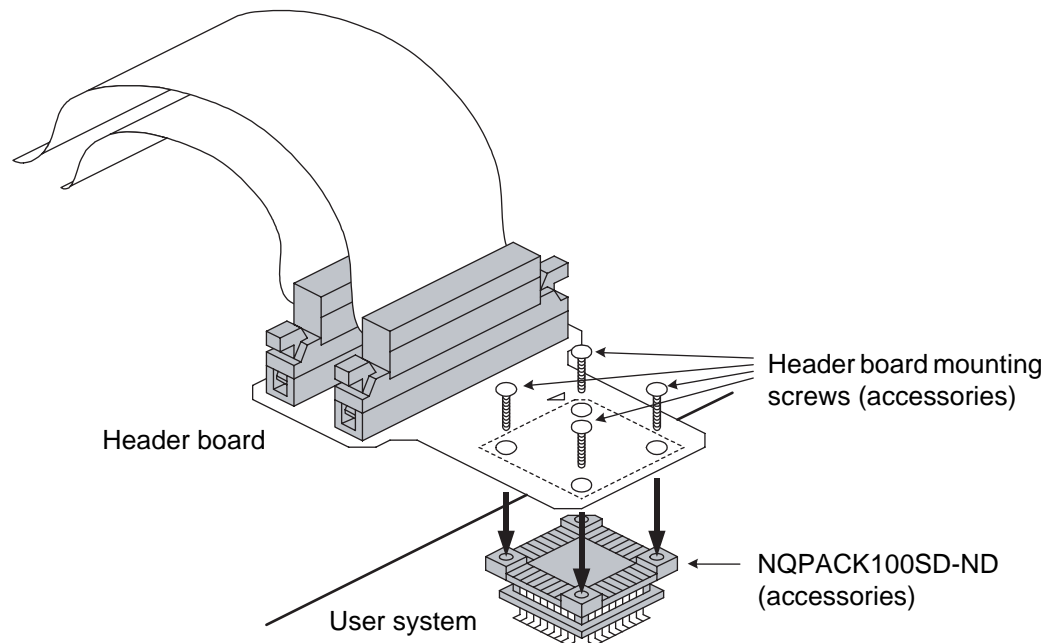

Figure 3 Header board connection to the user system
1. To connect the header board to the user system, match the index mark (only one corner is cut lineally) on the NQPACK100SD-ND mounted on the user system with the index mark (▼) on the header board, and then insert it (see Figure 3).
2. Insert each header board mounting screw for header board in each of the four tapped holes on the header board, and then first tighten the screws in opposing corners followed by the two remaining screws (see Figure 3).